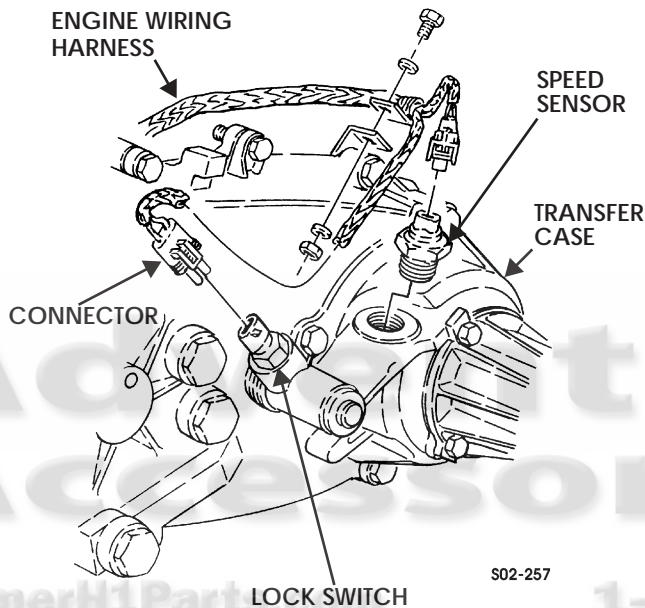

Figure 5-114: Speedometer Speed Sensor and Lock Switch
1. Disconnect engine wiring harness connector from speed sensor (Figure 5-114).
3. Disconnect wiring harness connector from transfer case lock switch (Figure 5-114).
1. Install lock switch in transfer case (Figure 5-114).